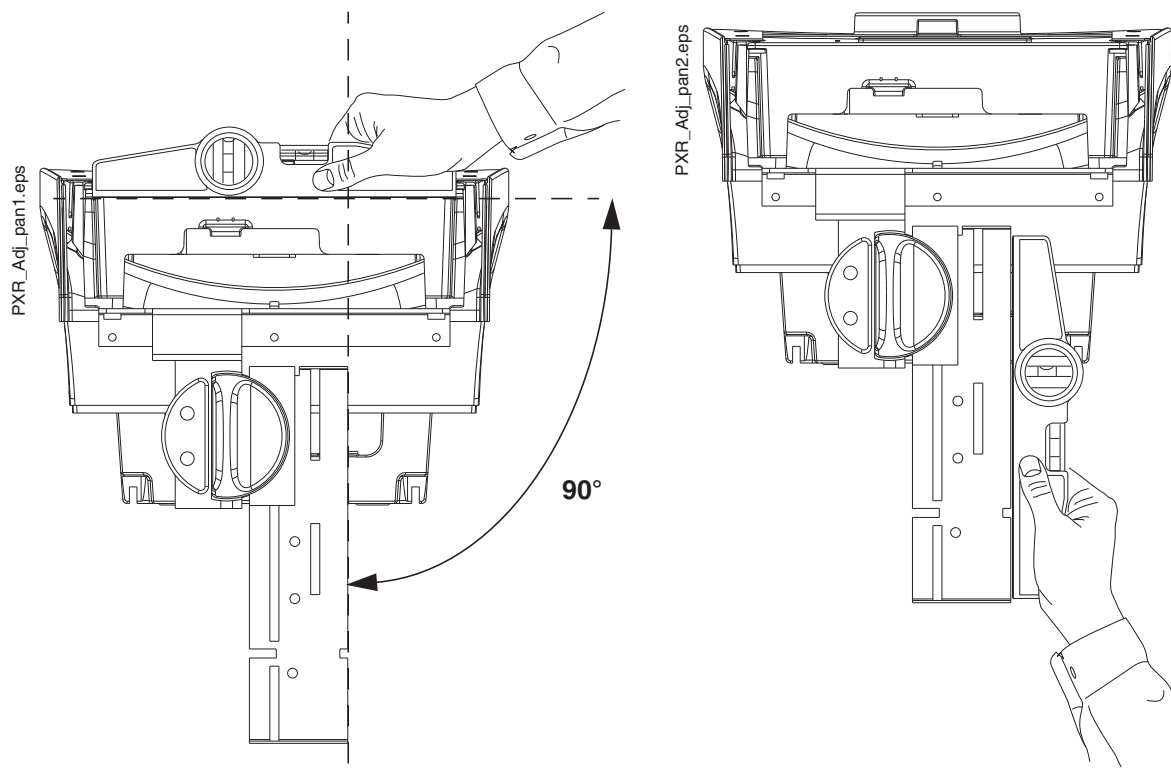

Figure 16
**NOTE** The sensor head (i.e. the sensor head alignment tool) must be perpendicular to the rotating unit, otherwise the angle of the quick connector mechanism must be adjusted. Check the position of the sensor head by using the spirit level as shown in Fig. 16 below.